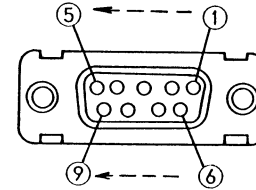

Fig. 7-1 Pin arrangement
(2) Specifications
- ① Electrical : Conforms to the EIA RS-232C.
- ② Type of transmission : Asynchronous
- ③ Length of stop bit : 1 bit or 2 bits
- ④ Character length : 8 bits
- ⑤ Parity bit : NONE/ODD/EVEN
- ⑥ Delimiter : C/R L/F
- ⑦ Transmission rate : 300, 600, 1200, 2400, 4800 or 9600 baud
- ⑧ Communication protocol : X-ON/X-OFF handshake or hand wired handshake(VC-5460 only)
(3) Pin arrangement and signal description
① Fig. 7-1 illustrates the pin arrangement of the RS-232C connector.